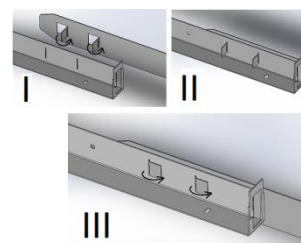

Fig.2
- 3) Place the assembly part no.1 in the slots (Fig. 2)